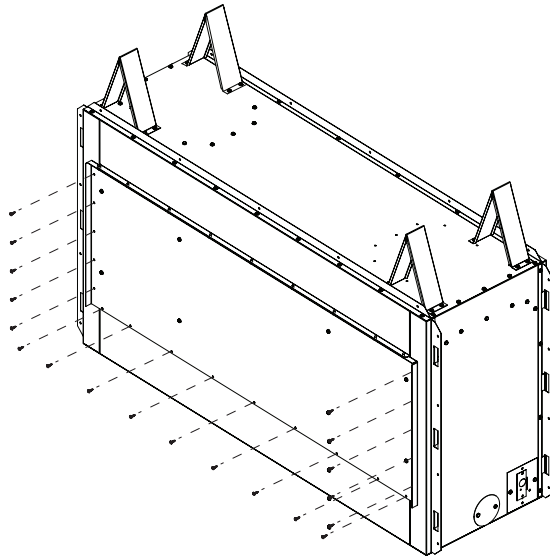

Figure 14 - Installing Rear Panel for Regular Applications
1. Using self-tapping screws provided and holes on rear panel as a guide, screw the rear panel to the fireplace as shown in Figure 14.